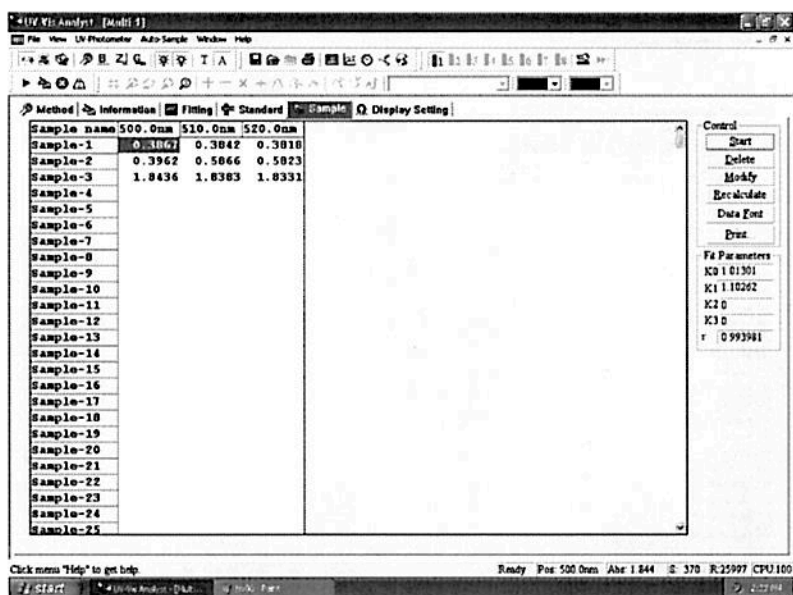

Fig. 4-5
- Repeat steps 7-8 to measure all samples (Fig. 4-5).